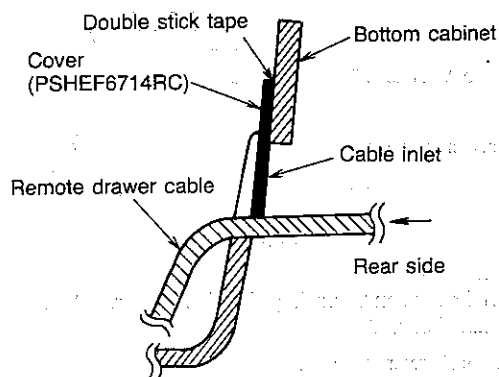

Fig. 8-13
- ⑧ Ensure that the cable is firmly fixed on the bottom cabinet, then attach the cover (PSHEF6714RC) to the inner wall at the cable inlet to shield the rest of open space as shown in Fig. 8-13.